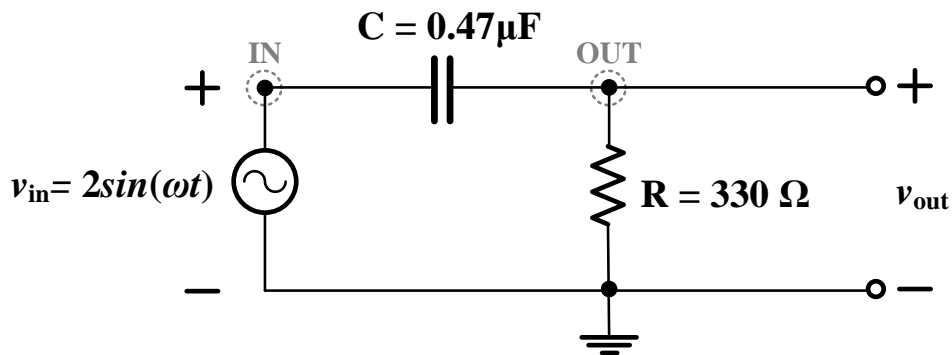

Fig. 10. The passive high-pass filter.
1. Measure the actual values of R and C of Fig. 10 and record in Table B.1.
2. Connect the passive low-pass filter circuit as shown in Fig. 10.